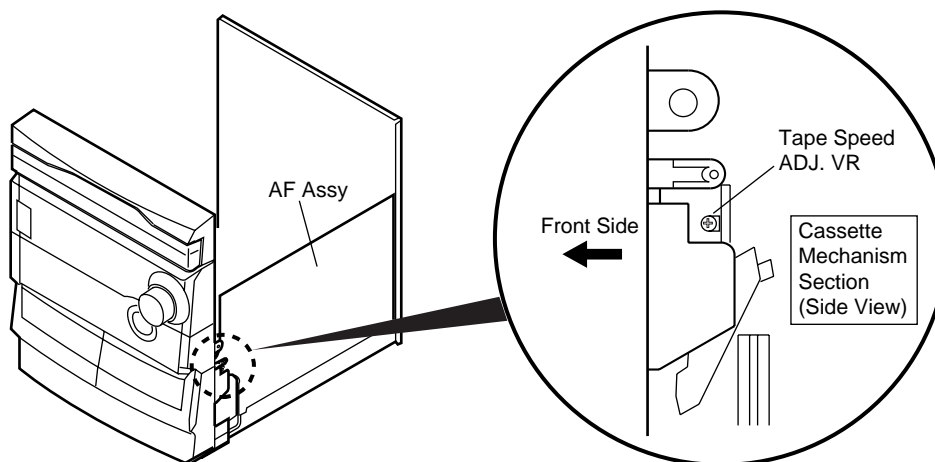
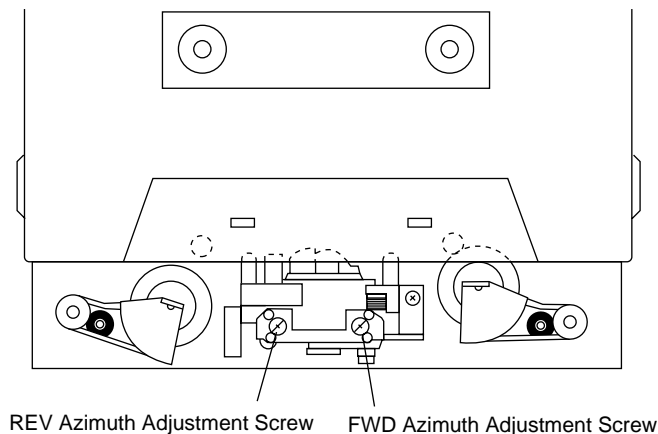

Fig.10 Tape Speed ADJ. Point
Fig.12 Head Azimuth Adjustment Screw
• Adjustment points and test points are shown in Fig.10, Fig.12 and Fig.13.